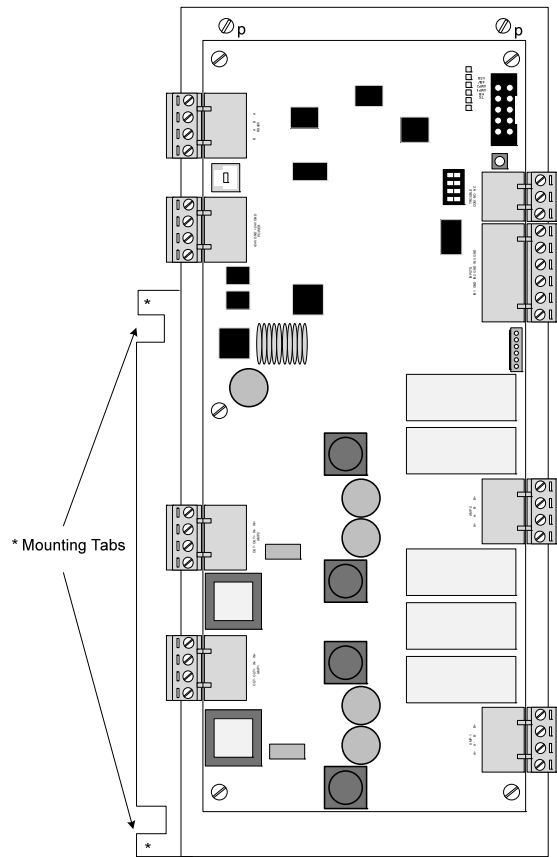

Figure 24 - AV-AMP-80 Audio Amplifier Module Mounting
To install the AV-AMP-80 audio amplifier module slide the AV-AMP-80 mounting plate tabs under the two (2) tabs located on the lower left side of the back box below the AX-CTL base card. Secure the top end of the AV-AMP-80 mounting plate to the back box standoffs with the provided two (2) screws (see figures 24).
Remove all field wiring terminal blocks from the audio amplifier module. Remove the two (2) screws [p] from the audio amplifier assembly's mounting plate. Carefully slide the audio amplifier assembly from under the back box mounting tabs [*] located on the left side of the audio amplifier mounting plate (see figure 24).